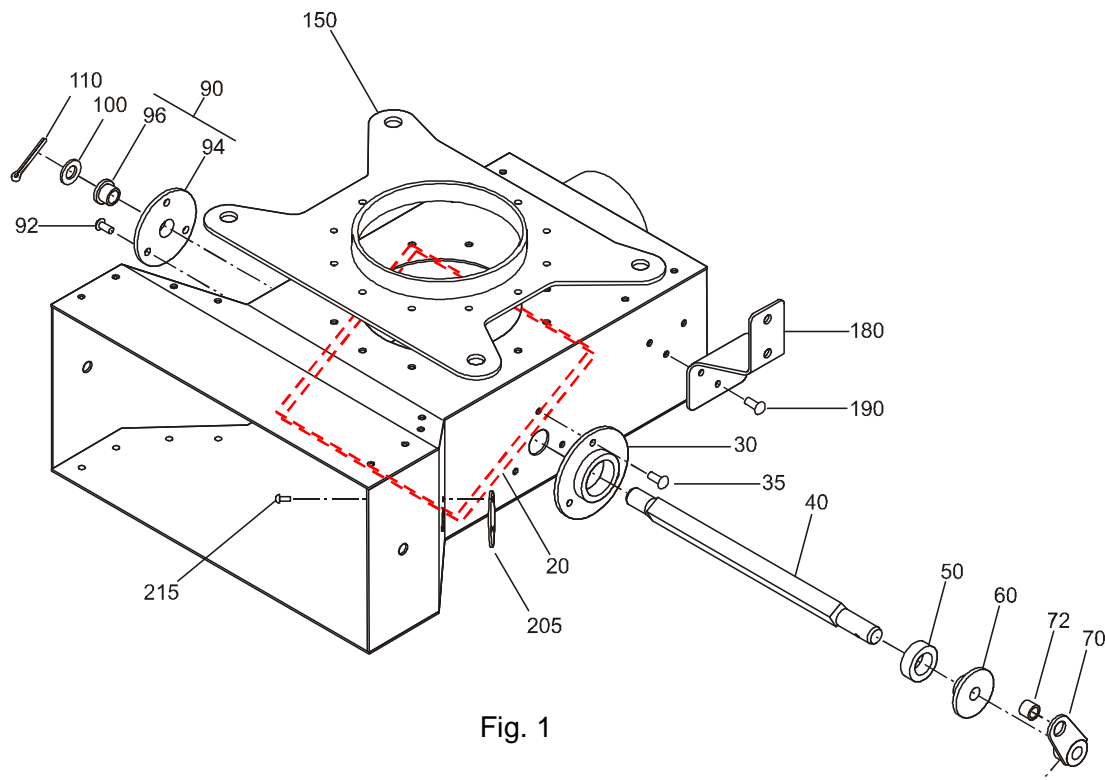

Fig. 1
- 1.8.4 Examine alternate air flap P/N 115-6602 (page 3, Fig. 1, item 20) for undamaged lip seal. In any case of doubt remove flap from the airfilterbox for examination.